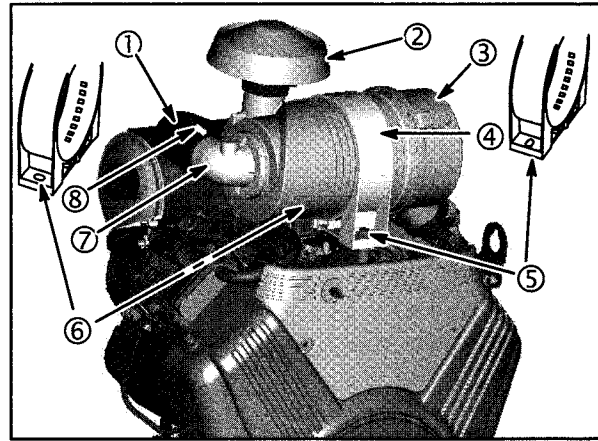

Fig. 43
1. Orient the air cleaner with the air inlet (2) facing UP. Tighten the air inlet hose clamp to **30 in. lbs. (3.4 Nm)**, **Fig. 43**.